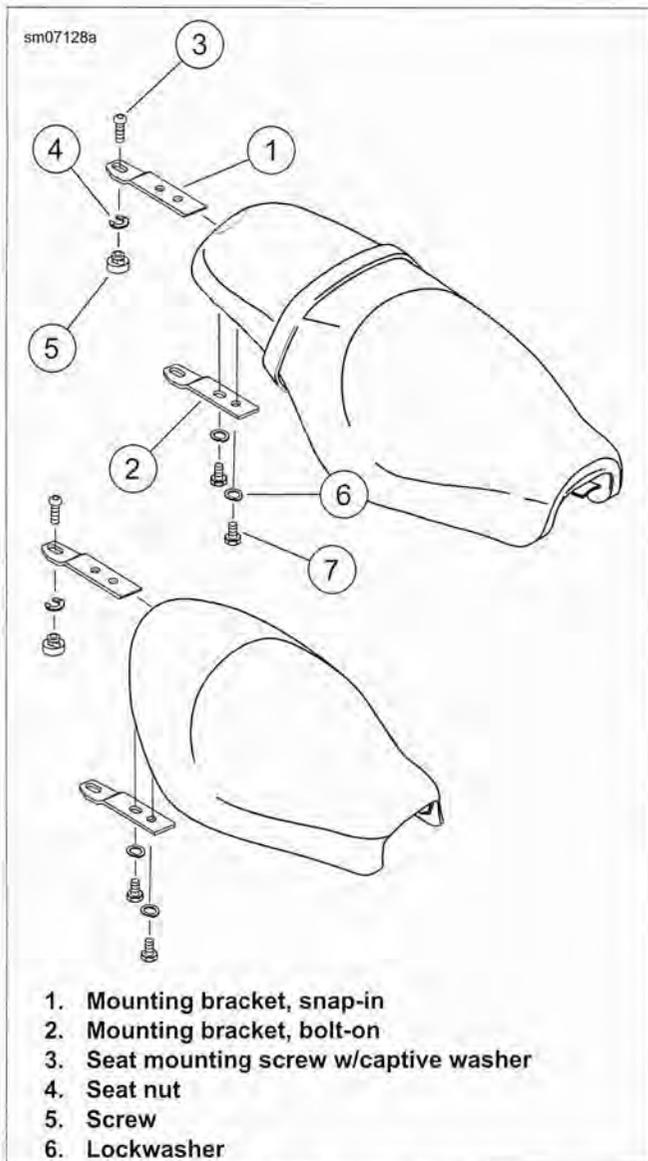

Figure 2-220. Seat Assembly: XL Models
1. See Figure 2-220. Remove screw (3) to detach seat from rear fender.
4. See Figure 2-220. Install seat mounting screw with captive washer (3) to fasten seat mounting bracket to top of rear fender. Mounting bracket of solo seat uses forward hole in rear fender; dual seat uses rearward hole.